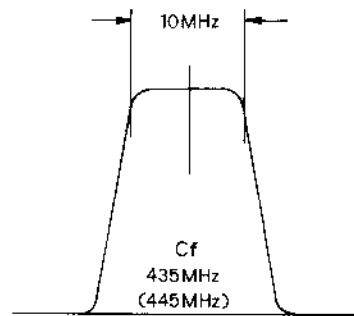

Figure 4
- e) Close the PTT switch and adjust TC3004, TC3005, TC3006 and CV3003, until the scope pattern illustrated in Figure 4 is obtained.